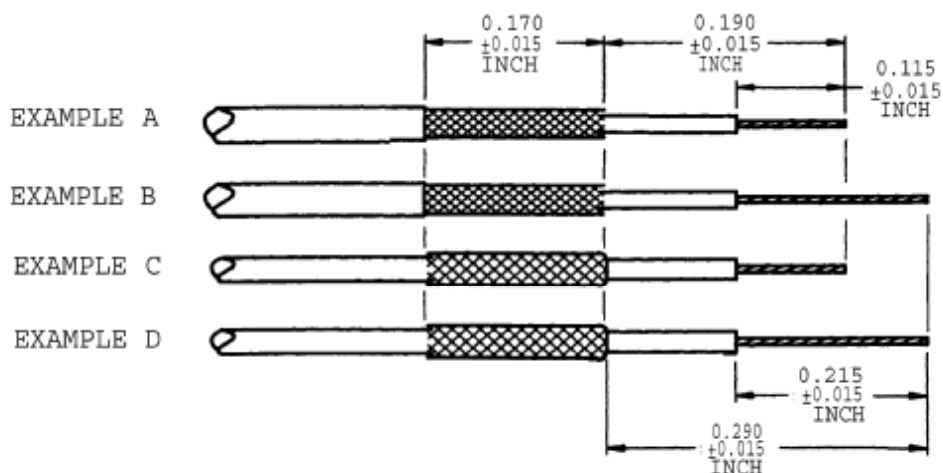
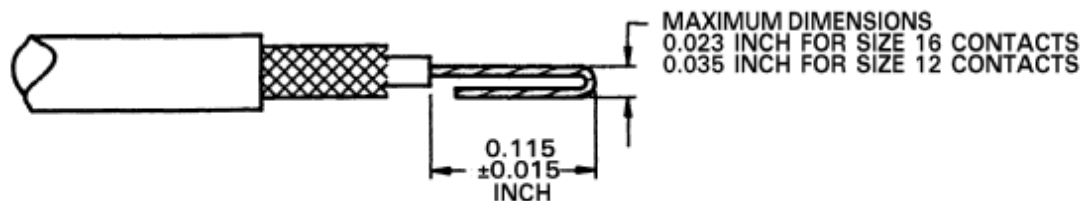

Figure 5-3. Coaxial Cable Stripping Dimensions (Refer to Table 5-1)
Figure 5-4. Small-Diameter Center Conductor Folded Back
2. Prepare the coaxial cable to the dimensions shown in the applicable example in Figure 5-3, based on the following criteria:
- NOTE: If the braid fold-back method is used, fold braid back over cable jacket and trim to the dimensions shown in Figure 5-3.
7. If the center conductor strip length is 0.215 inch as shown in examples B and D of Figure 5-3, fold the center conductor back on itself as shown in Figure 5-4.
1. Strip the RG-178B/U coaxial cable as shown in example A of Figure 5-3